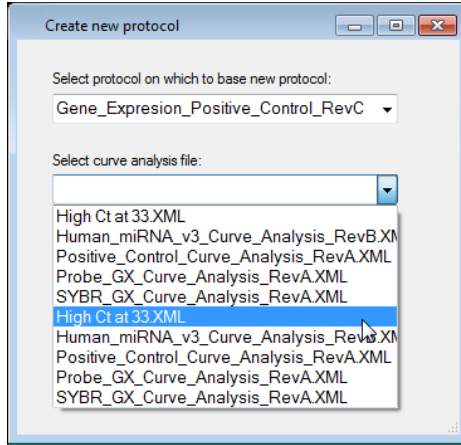

Figure 16. Create new protocol window.
- e. From the **Advanced** drop-down menu, select **Create user protocol...** In the window that opens (Figure 16), choose the protocol that you want to modify with your newly created curve analysis settings. In the next pull-down menu, choose the curve analysis settings file you created in Step c.